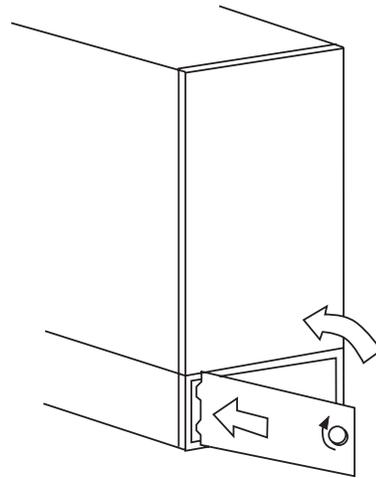

**Fig. 31 - Replace Side Filter Cabinet Door**
8. Replace blower access panel and main furnace door (Fig. 29 and 30.) or filter cabinet door. (Fig. 31 and 32.)